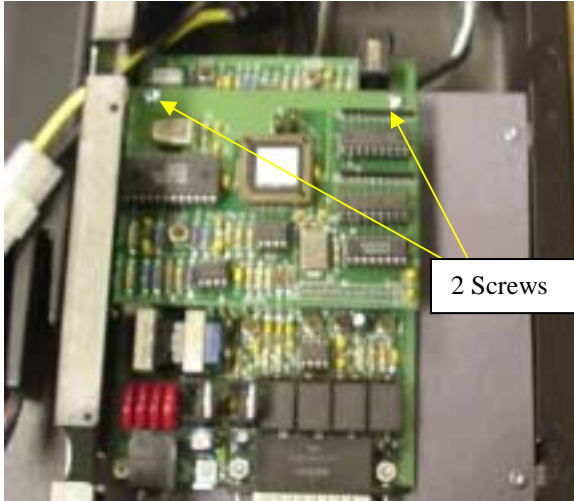

Figure 3
- a. Remove the two screws that hold the top board from main board of tone option. Pull out the board and set aside the board and the two screws. (Fig. 3)